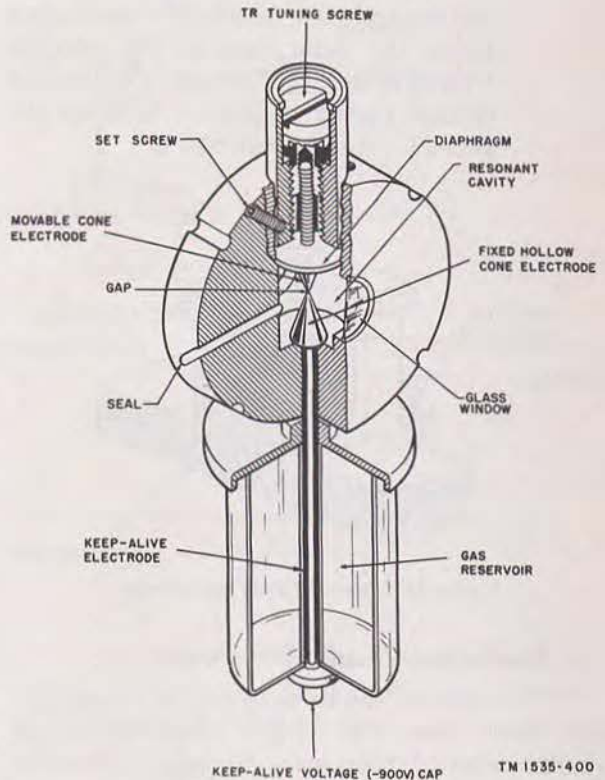

Figure 32. TR tube.
- (1) The microwave TR tube (fig. 32) consists of a resonant cavity that contains a spark gap. Energy is coupled into and